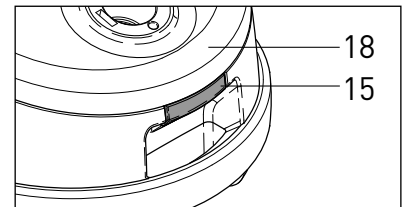

Figure 26
Changing the Pre-motor Filter - Figures 26 & 27
The pre-motor filter (48) needs to be changed when it becomes extremely dirty or clogged. To remove the pre-motor filter, switch off the power and unplug the vacuum. Lift the cover release catch (#15, figure 26) and raise the filter bag cover (18). Pull the filter (48) out by grasping the rubber rim (#50, figure 27) of the filter and pulling it out of the groove (#49, inset, figure 29) that holds it. Fit the new filter into the groove and push the rubber rim snugly into the groove **all the way around the filter edge**. Do not leave any loose edges. Close the filter bag cover making sure that the cover release catch snaps back into place.